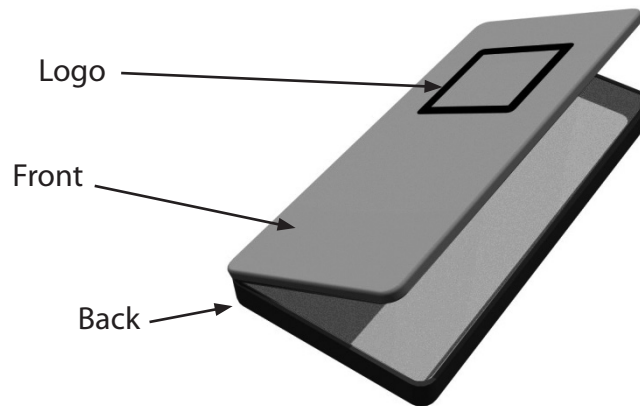

Figure 1
- 1 Figure 1 shows a two-part mobile phone case.